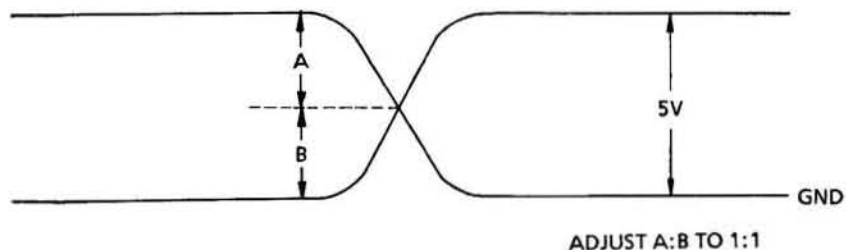

Fig. 9.6 Track 0 Waveform
- (2) Step between specified tracks at in the FLAG 0 item of Table 8.1 (Turn the seek delay switch on the exerciser to adjust 12 ms seek.)
- (3) Loosen the track 0 sensor screw and adjust until the waveform on the oscilloscope appears as shown in Fig. 9.6.